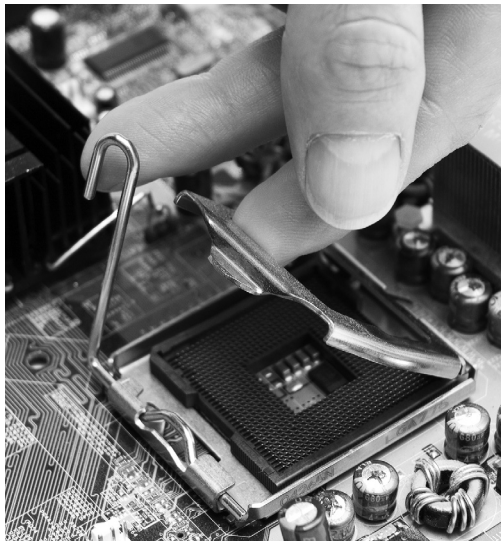

FIGURE 5.8 Lifting the arm
1. Lift the CPU release lever arm (Figure 5.8).